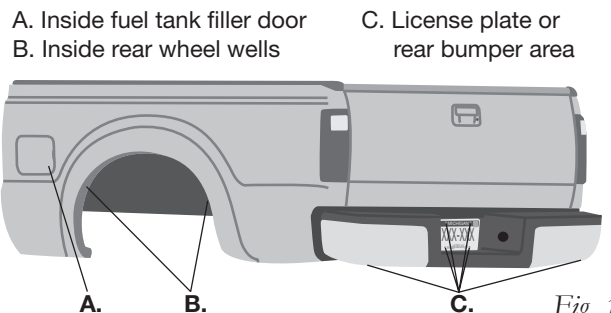

Fig. 14
5. Select a location for the Schrader valve (K), ensuring that the valve will be protected and accessible with an air hose (Fig. 14). Drill a 5/16" (8mm) hole, if necessary. Determine and cut adequate length of air line (C) to reach from the tee to the Schrader valve or from the air springs to the valve if using a dual-path installation.